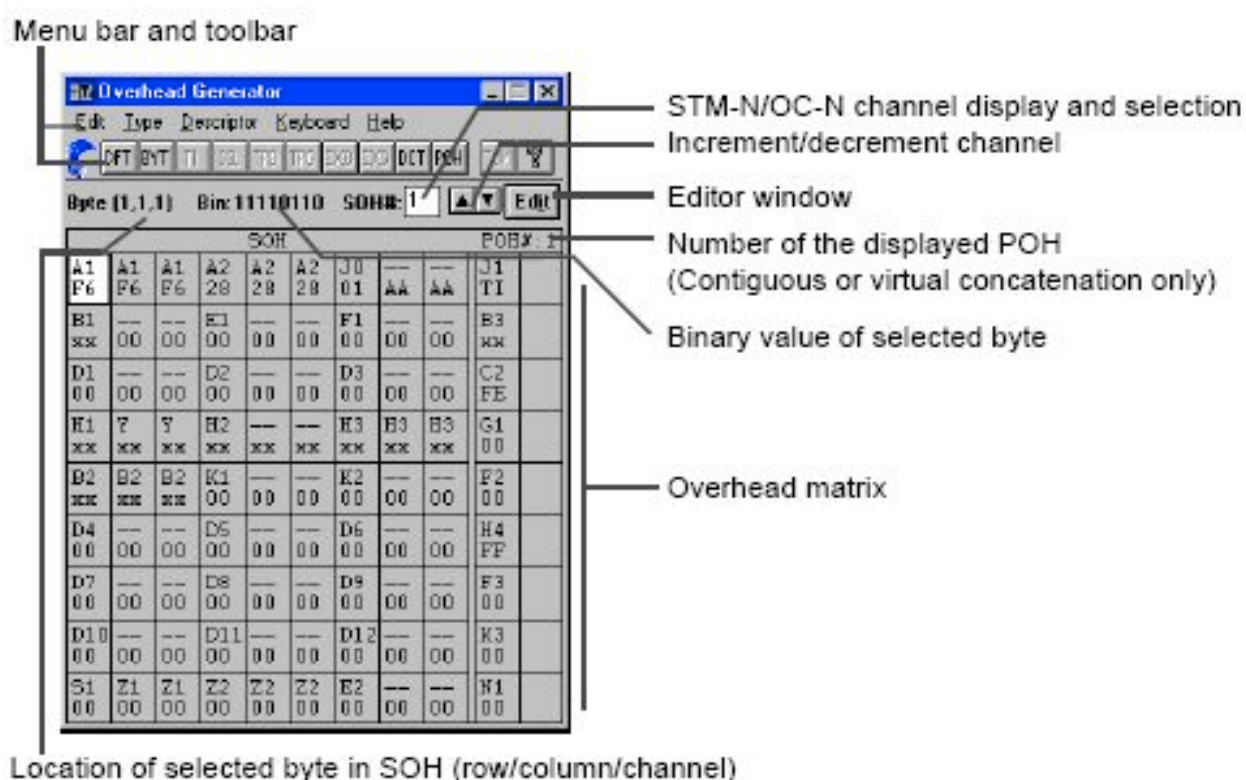

Fig. 3-A Overhead Generator VI
3. Click on ‘Overhead generator VI’ to activate. The VI boots up and the window shown in fig.3-A appears
Icon(button) wise functions in the above window are given in fig.3-B